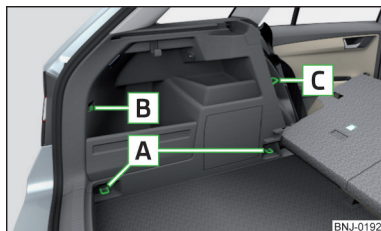

Fig. 81
Overview of the fasteners » Fig. 81
- The lashing eyelets **A** » Fig. 81 on page 85 cannot be used for attaching nets, when the variable cargo floor is in the upper position » page 89¹⁾.